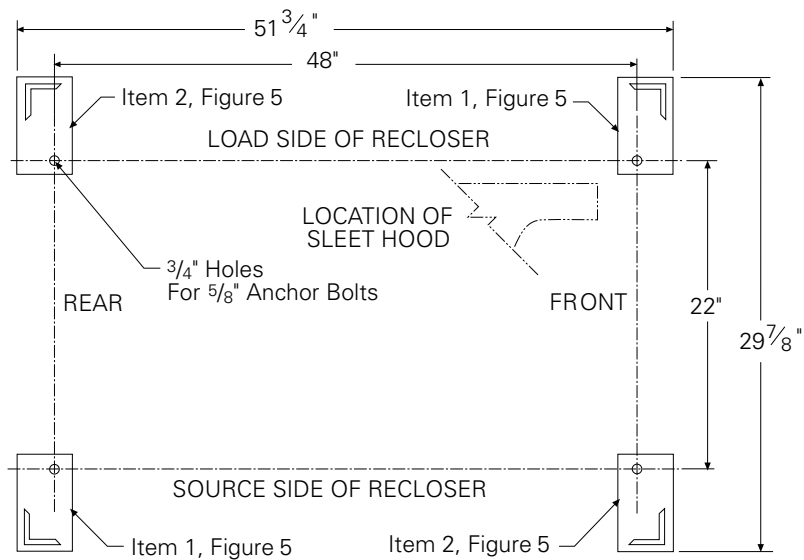

Figure 3. Orientation of frame and position of lower frame posts.
1. Position four lower frame posts (Items 1 and 2) as shown in Figure 3.
Note: Upper post with knee (Item 6) is positioned adjacent to the sleet hood of the recloser (Figure 3) for access to the yellow operating handle of the recloser.